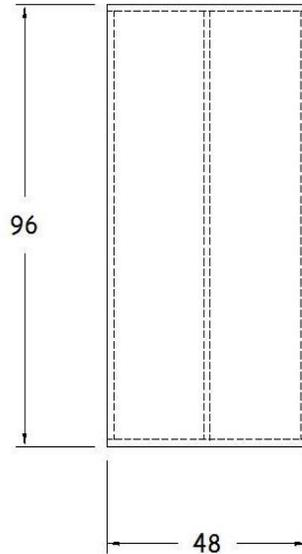

Figure 22-2. Floor Sheathing – Two Req'd.
2. Cover each section with one 4'x8' sheet of 3/4" treated plywood. Nail to the end plates and all floor joists with 8d nails every 6". See Figure 22-2.